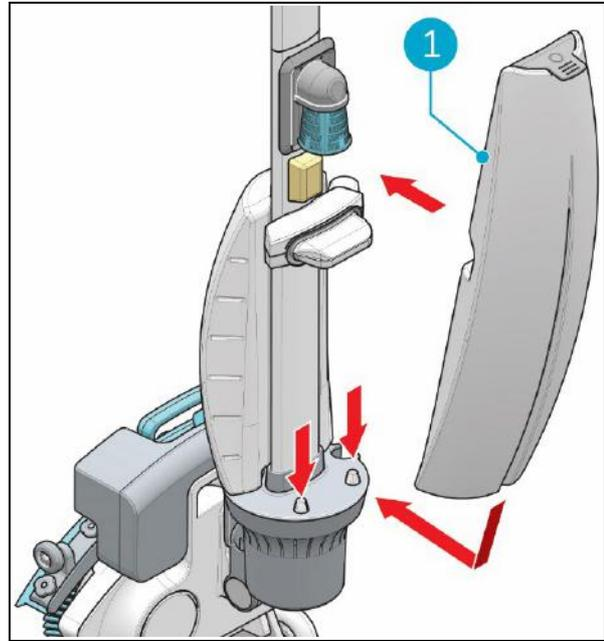

Figure 12
1. Put the tank (Figure 12, pos 1) on the imop® Lite with the bottom first.